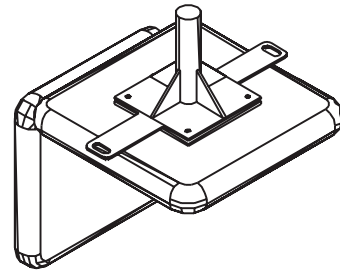

Figure 4-57
4. Attach the Anchor Plate in the center of the seat plate evenly, with the holes on each end. **See Figure 4-57.**